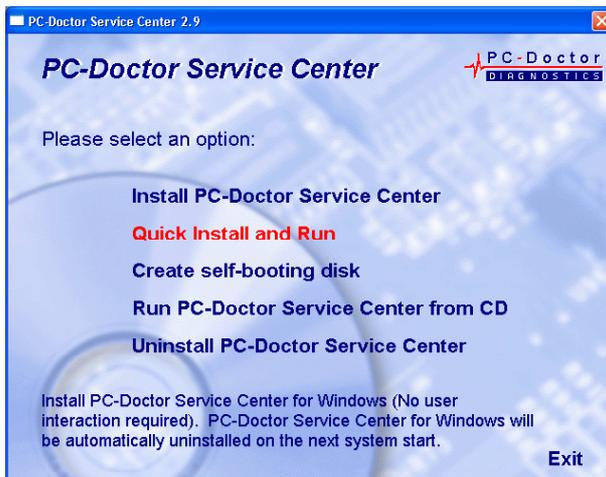

Figure 10.2-1
4. Start PC Doctor in the 'Quick Install and Run' mode (otherwise certain tests will not be enabled). See Figure 10.2-1.